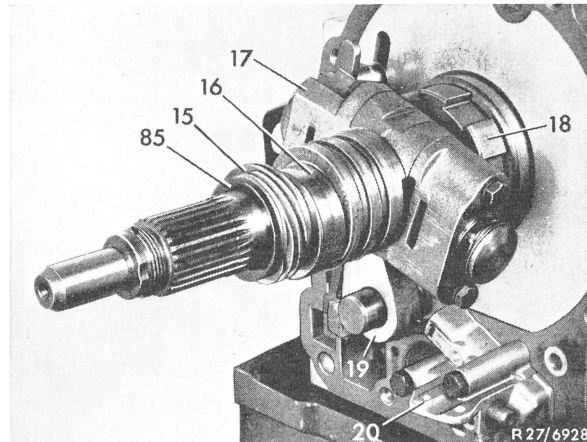

Fig. 17
**24** Remove cup spring (85) with worm gear of tachometer drive (15), eccentric ring for secondary pump (16) and centrifugal governor (17) from output shaft (Fig. 17).
**25** Remove parking lock pawl (19) and expanding spring. Pull parking lock wheel (18) from output shaft (Fig. 17).